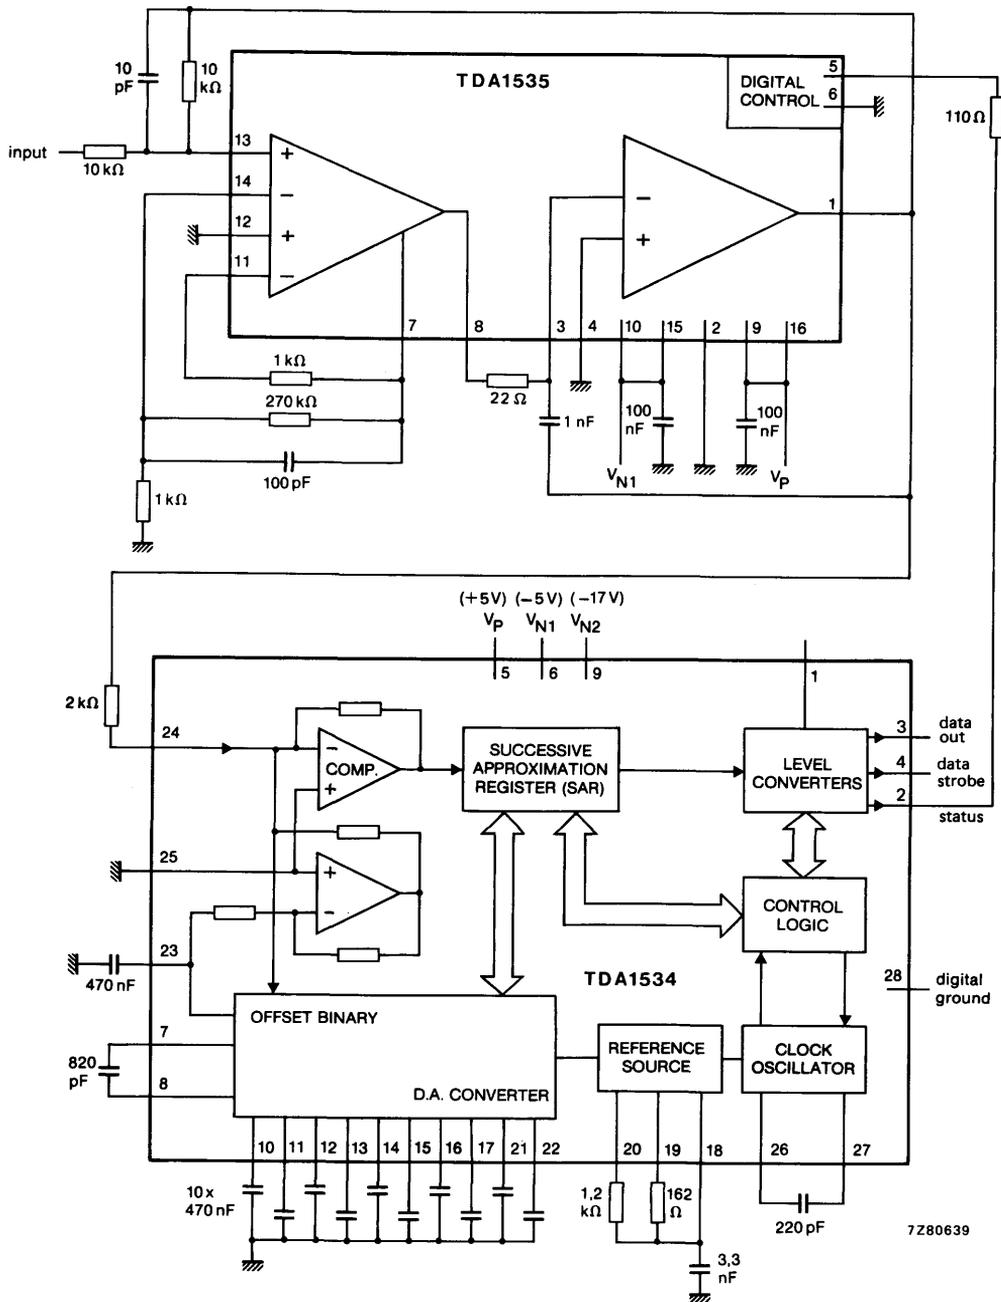

Fig. 4 Application and test circuit.
**CHARACTERISTICS** (see application circuit Fig. 4) $V_P = 5\text{ V}$ ;  $-V_{N1} = 5\text{ V}$ ;  $-V_{N2} = 17\text{ V}$ ;  $T_{amb} = + 25\text{ °C}$ , unless otherwise specified.